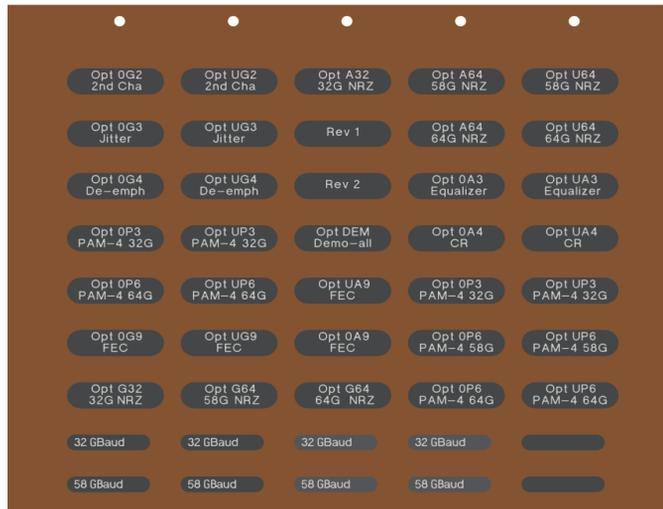

Figure 20 Option label sheet
Whenever the M8020A is upgraded with additional options, it is recommended that you affix the corresponding label(s) to the front panel of the module. The option labels provide a quick view of which options are installed in each module. **Figure 20** on page -51 shows the option label sheet provided with your M8020A system.
- 1 Locate the option label sheet shown in Figure 20 on page -51.